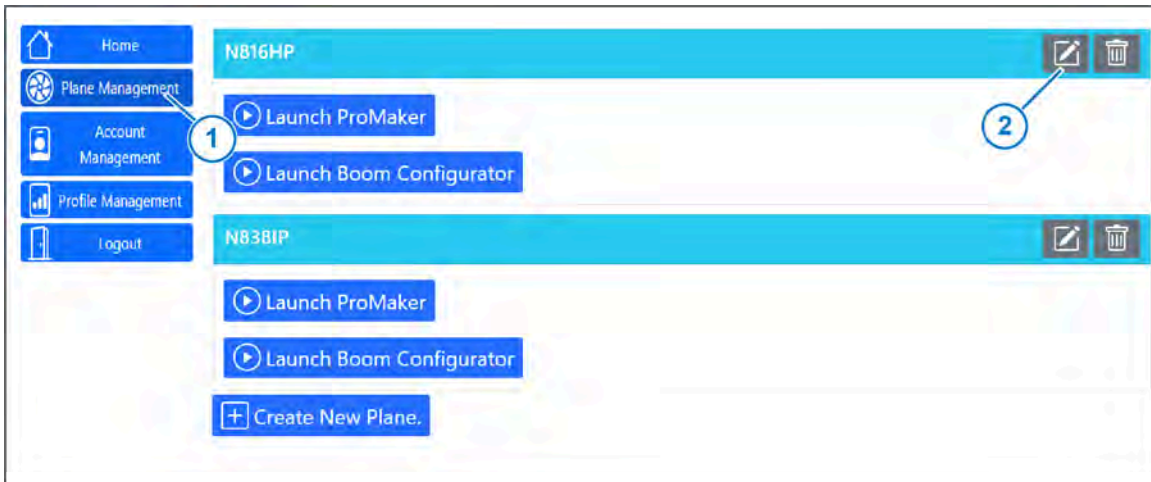

Figure 16: Plane Management
1. Select **Plane Management** (Figure 16, Item 1) from the sidebar.
2. Select the **Edit** icon (Figure 16, Item 2) next to the desired plane.